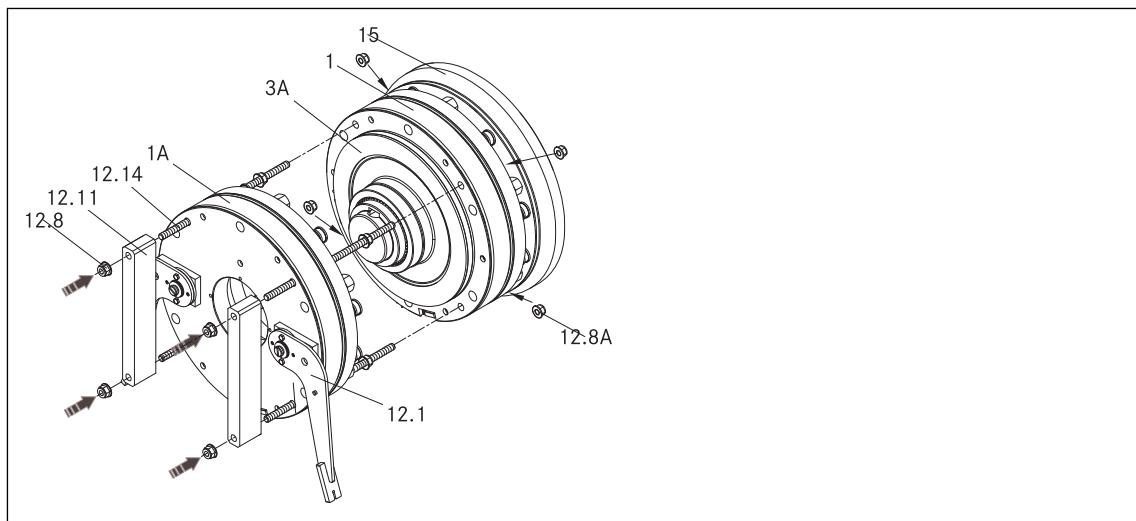

Fig. 16 Assembly parts
17. Use a torque key to re-tighten the supplied fixing screws (10) with the required tightening torque (FIG. 16).